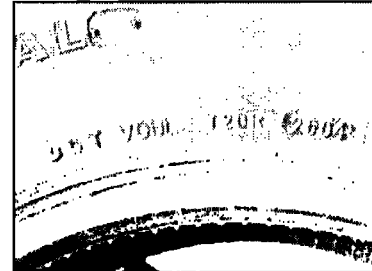

Figure 3
6. Cut out the **full** 12-digit Goodyear tire serial number following the marking "DOT" and retain. The complete 12-digit number may be located only on one side of the tire. **The serial number must be returned to Fleetwood along with the Warranty Repair Claim.** Affected tires will contain "T20R" in the fifth through the eighth characters of the serial number. See Figure 3.